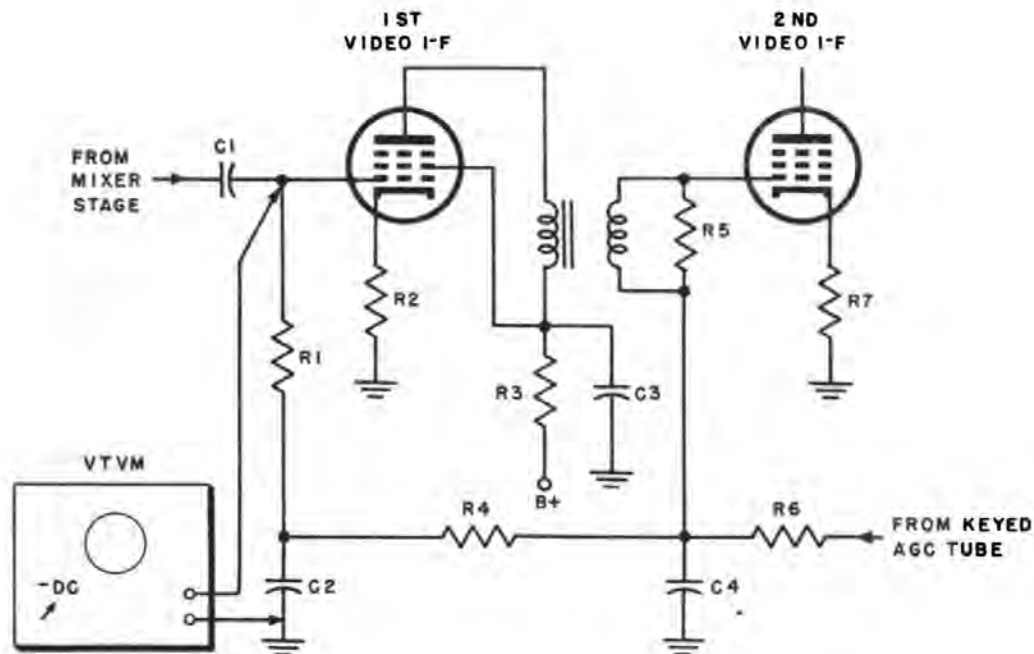

Fig. 5-3. Checking the agc voltage in a receiver.
- a. Connect a vtvm, set to a low d-c scale, to the agc bias as in Fig. 5-3. (Connect the negative lead of the vtvm to the agc bus, and the positive lead to B— of the receiver.)